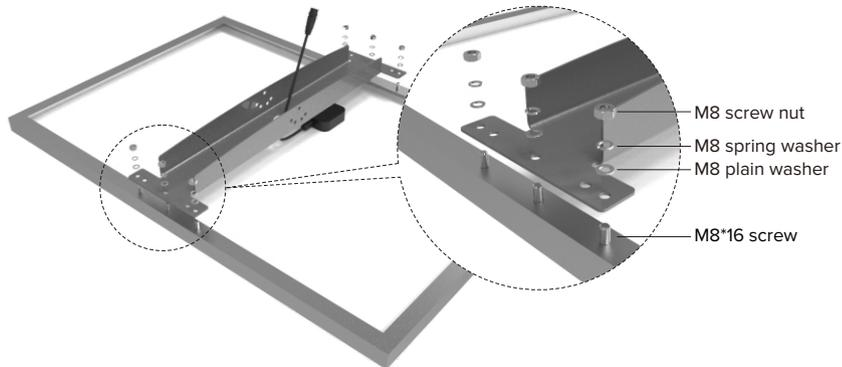

Figure 1
- 1 Fasten the U-type bracket to the solar panel frame, see figure 1, the accessories are M8*16 screw, M8 screw nut, M8 plain washer, M8 spring washer.